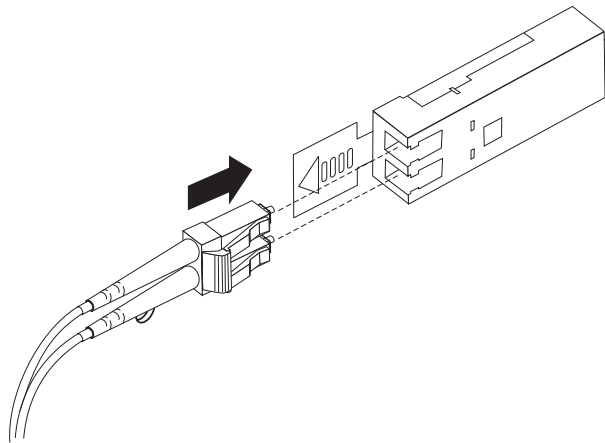

Figure 32. Inserting an LC-LC Fibre Channel cable into an SFP module
4. Carefully insert this end of the LC-LC cable into an SFP module that is installed in the DS5020. The cable connector is keyed so it will be inserted into the SFP module correctly. Holding the connector, push in the cable until it clicks into place, as shown in Figure 32.